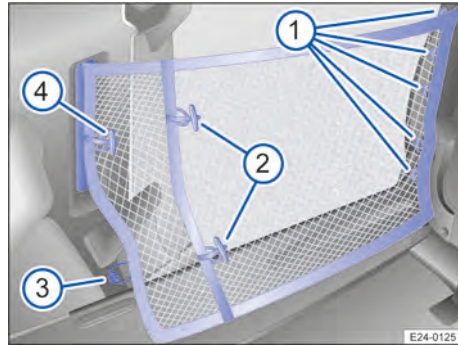

Fig. 139 Restraint net attached with partition set up.
→ Fig. 139 ②.
3. When using with the partition set up: attach the retaining rings in the holders on the seat frame → Fig. 139 ①.
4. Attach the rear lower part of the load restraint net in the holder on the side panel → Fig. 139 ③.